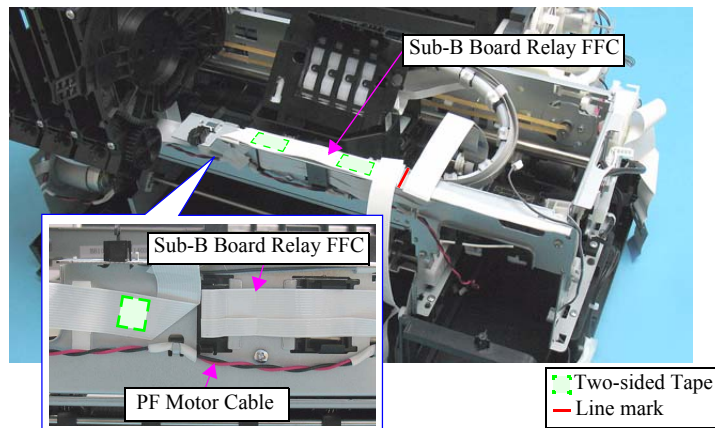

Figure 4-78. Removing the IC Holder Assy (3)
- Route the Sub-B Board Relay FFC aligning it with the line mark on the Main Frame. See Figure.4-78.